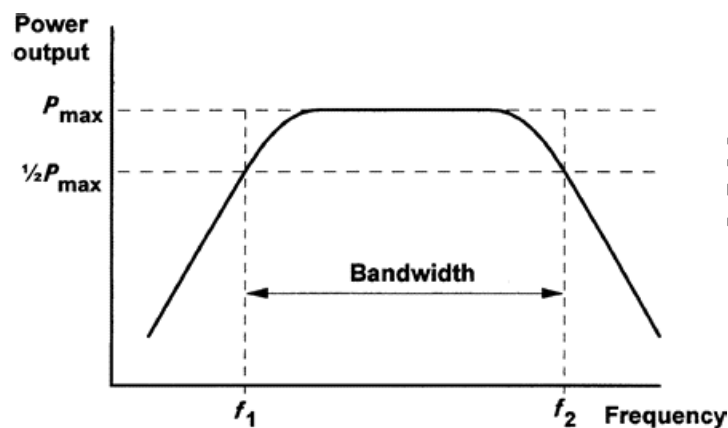

Figure 1.22 Frequency response and bandwidth (output power plotted against frequency)
- Figs 1.22 and 1.23, respectively, show how the bandwidth can be expressed in terms of either power or voltage (the cut-off frequencies,  $f_1$  and  $f_2$ , and bandwidth are identical).